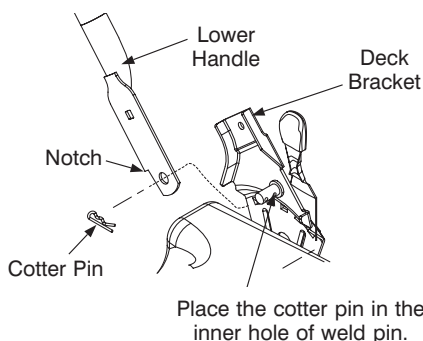

Figure 1
- There is an off-set hole in the lower handle to provide you with two handle height adjustments. Handles mounted with the notch (see inset, Figure 1) forward or upward will be lower than handles mounted with the notch towards the rear of the unit.
- Secure with cotter pins in the inner holes in the weld pins. See Figure 1.